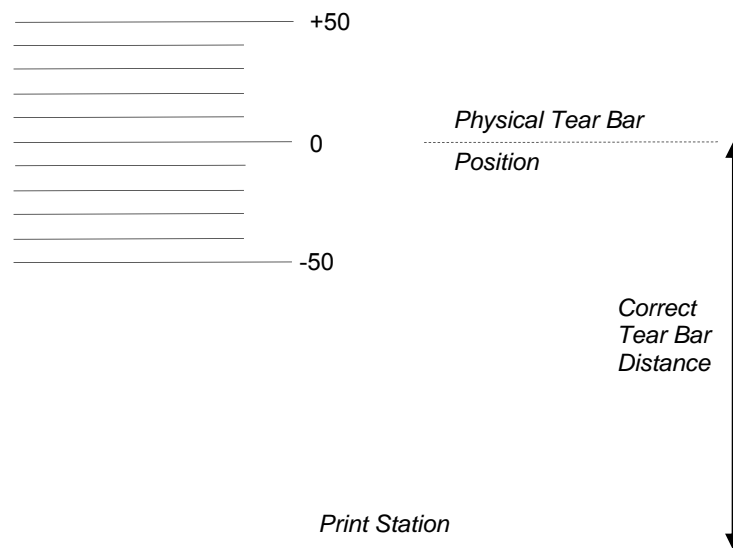

Figure 51 Correct Tear Bar Distance
9. Press **ENTER** to select the desired value. An asterisk appears next the selected value and a scale prints to indicate the tear bar distance in relation to the tear bar. For correct tear bar distance, the zero should align with the tear bar. See Figure 51.